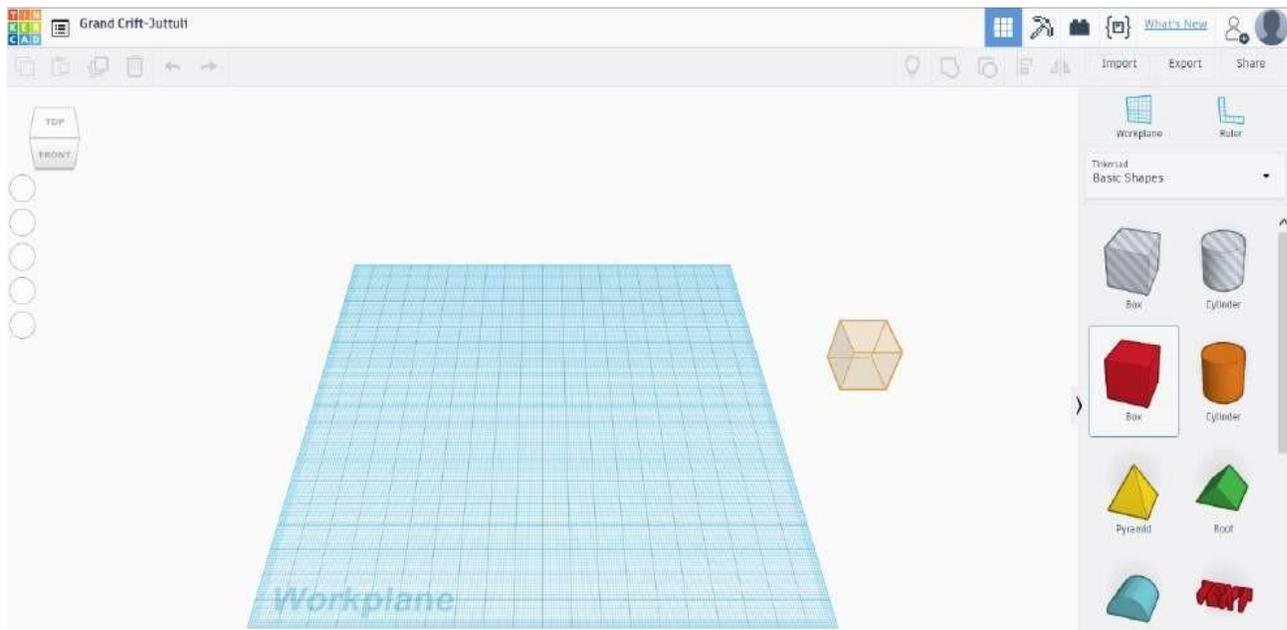

Fig.2.13 Drag a box
2. Click and drag a box onto the Workplane (Refer fig. 2.13)